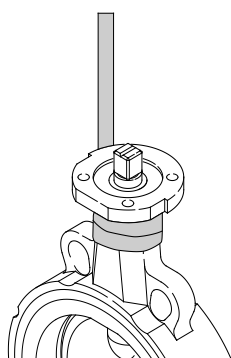
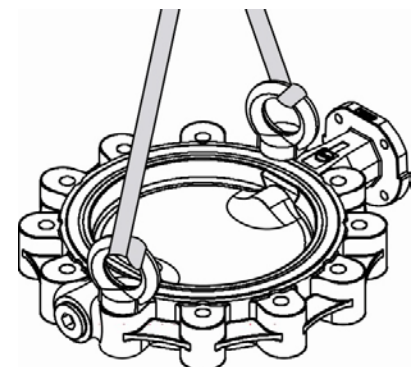

Fig.1
Fig.3
- If a hoist shall be used for better handling, fix the lifting devices at the valve body only, not at the actuator unit. See Fig.1 to Fig.3.